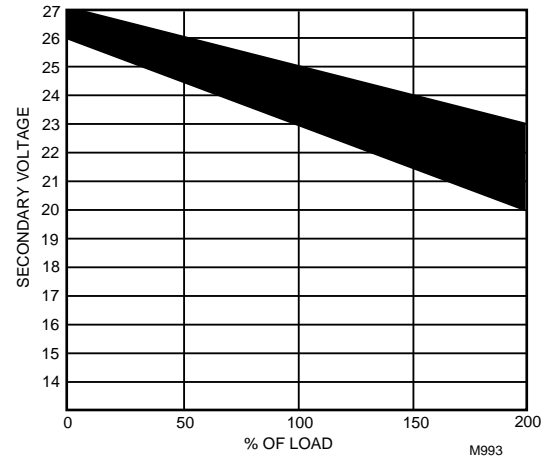

Fig. 44. NEMA class 2 transformer voltage output limits.
The Excel 15 System example requires 41.9 VA of peak power; therefore, a 75 VA AT88A Transformer could be used to power one Excel 15 Systems of this type, or a 100 VA AT92A Transformer could be used to power two of these Plant Controllers and meet NEC Class 2 restrictions (no greater than 100 VA). See Fig. 44 and 45 for illustrations of power wiring details. See Table 20 for VA ratings of various devices.
This means that four volts are going to be lost between the transformer and the controller; therefore, to assure the controller receives at least 20 volts, the transformer must output more than 24 volts. Because all transformer output voltage levels depend on the size of the connected load, a larger transformer outputs a higher voltage than a smaller one for a given load. Fig. 44 shows this voltage load dependence.
In the preceding $I \times R$ loss example, even though the controller load is only 37 VA, a standard 40 VA transformer is not sufficient due to the line loss. From Fig. 44, a 40 VA transformer is just under 100 percent loaded (for the 37 VA controller) and, therefore, has a secondary voltage of 22.9 volts. (Use the lower edge of the shaded zone in Fig. 44 that represents the worst case conditions.) When the $I \times R$ loss of four volts is subtracted, only 18.9 volts reaches the controller, which is not enough voltage for proper operation.
1. Use a larger transformer; for example, if an 80 VA model is used an output of 24.4 volts minus the four volt line loss supplies 20.4V to the controller. See Fig. 44. Although acceptable, the four-volt line-loss in this example is higher than recommended. See the following **IMPORTANT**.
To meet the National Electrical Manufacturers Association (NEMA) standards, a transformer must stay within the NEMA limits. The chart in Fig. 44 shows the required limits at various loads.